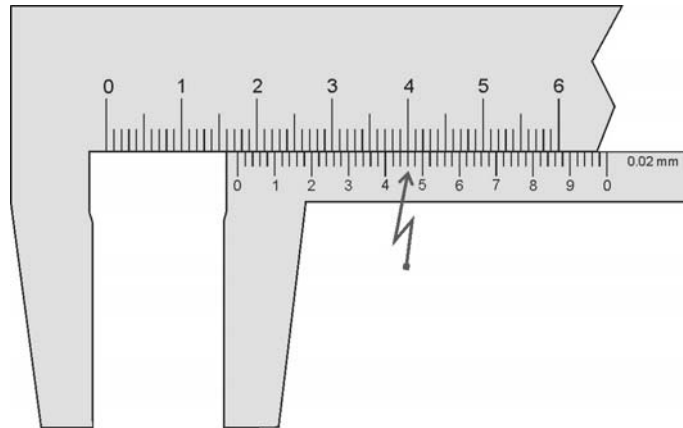

Fig. 5 A reading on a vernier caliper.
4. The vernier scale enables one to accurately determine the value of Δ , the amount by which the zero vernier line went over the millimeter mark, or the fraction of the millimeter value of the reading. The vernier reading is made at the point where a vernier line aligns with a millimeter line on the centimeter scale above it. Alignment occurs at the arrow in **figure 5**. What is the vernier caliper reading in millimeters including the fraction of the millimeter or vernier reading?